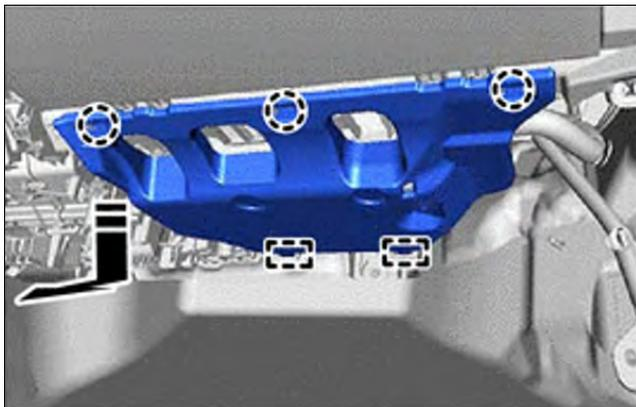

Figure 8
- (a) Disengage the 3 claws and two guide to remove the instrument panel under cover sub-assembly, as shown in Figure 8.